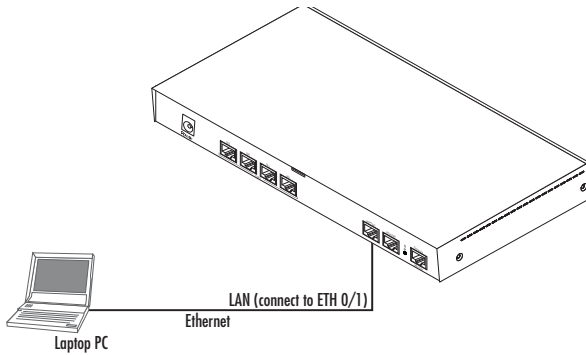

Figure 1. Connecting to the PC
1. Connect the PC's Ethernet port to *LAN (ETH 0/1)* port of the SmartNode 4960. The SmartNode 4960 Series is equipped with Auto-MDX Ethernet ports, so you can use straight-through or cross-over Ethernet cables for host or hub/switch connections. (See figure 1.)